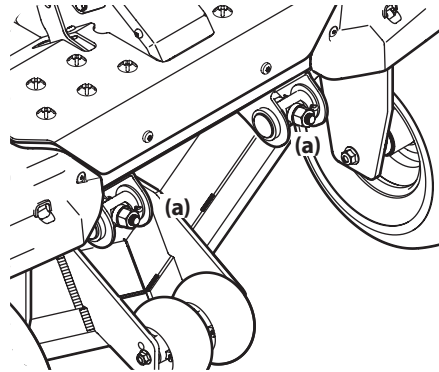

Figure 27
- Using a wrench, raise the front of deck by loosening the lock nuts to the front of the pivot pin (a) and then tighten the jam nuts on the back of the pivot pin (a) to raise the front of the deck and secure in place. See Figure 27.
- Using a wrench, lower the front of deck by loosening the jam nuts on the back of the pivot pin (a) and then tighten the lock nut on the front of the pivot pin (a) to lower the front of the deck and secure in place. See Figure 27.